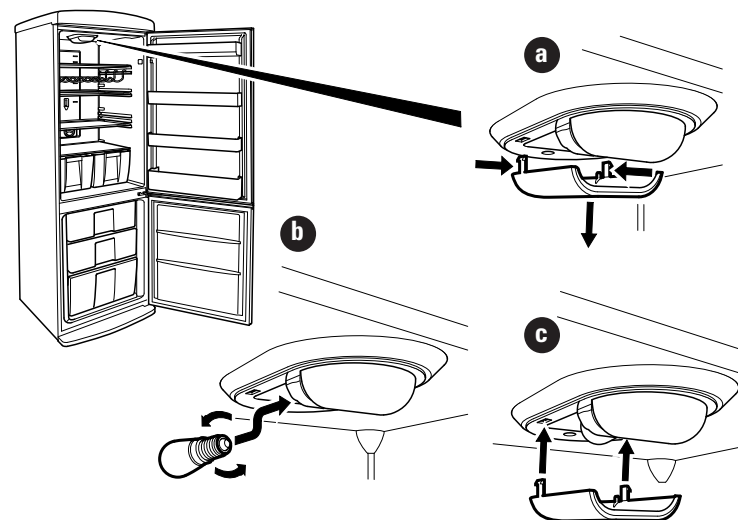

Figure 7
- 2 Apply light pressure to the sides of the light cover and carefully pull downwards. (Figure 7 a).
- 3 Unscrew the bulb by turning it clockwise, and remove (Figure 7 b).
- 5 Re-fit the light cover, by pushing it upwards it until it clicks back into position (Figure 7 c).